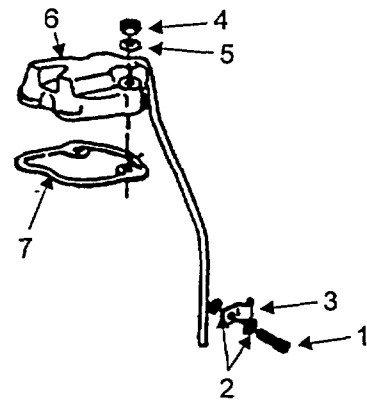
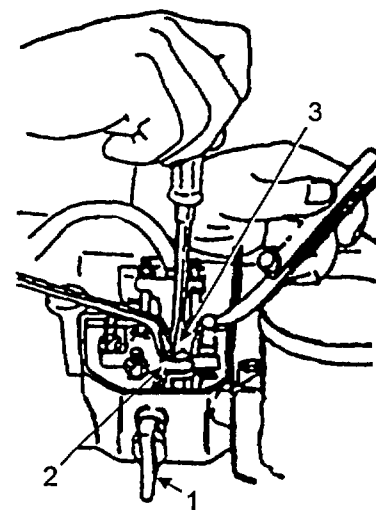
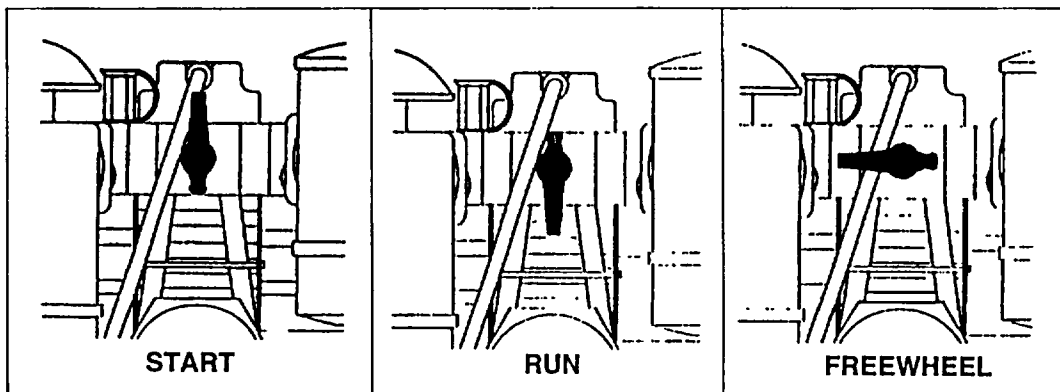

Figure 4-1. Removing Valve Cover
Figure 4-2. Tappet Adjustment
Figure 4-3. Decompression Lever Positions
b. Loosen the screw (1) securing the valve cover vent line clamp (3) with an open end wrench (see figure 4-1).
c. Remove valve cover retaining nuts (4), and washers (5) lift off valve cover (6) and gasket (7).
a. Put decompression lever (Figure 4-2, Item 1) in the RUN position. See figure 4-3.
c. Check clearance between rocker and valve stem with a feeler gauge. Tappet clearance cold should be 0.004 inch (0.10mm). To correct clearance, loosen nut (Item 2, figure 4-2).
d. Adjust screw (Figure 4-2, Item 3) with a screwdriver until feeler gauge can be pulled between rocker and valve stem with very slight resistance after nut (2) has been tightened.
- a. Rotate the decompression lever (Figure 4-2, Item 1) clockwise to START position (see Figure 4-3).
- a. Position a new gasket (Item 7, figure 4-1) on the mating surface of the cylinder head.
- b. Position the valve cover (6) on the cylinder head and secure with washers (5) hex nuts (4) Torque to 35 Nm (25 lb.-ft) then additional 1/8 turn with T-handle & socket.
- c. With screw (1) and washers (2) reinstall the vent line clamp (3) and tighten with an open-end wrench